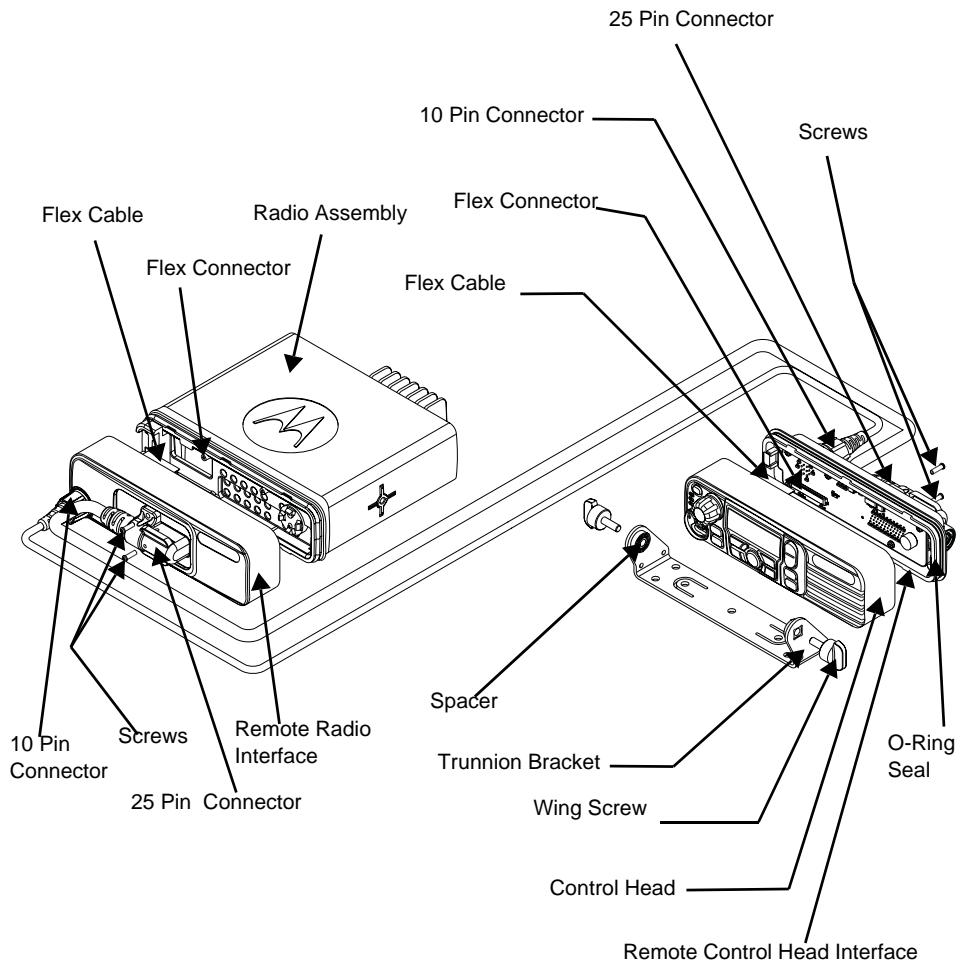

Figure 3 Remote Control Head Assembly and Trunnion Mounting
1. Verify that the flex cable is fully seated in the connector on the control head assembly. (See Figure 3).
2. Assemble the flex cable to flex connector on the remote control head interface module, making sure it is fully seated. (See Figure 3).
1. Verify that the flex cable is fully seated in connector on the remote radio interface module. (See Figure 3).
2. Assemble the flex cable to the flex connector in the radio assembly, making sure it is fully seated. (See Figure 3).